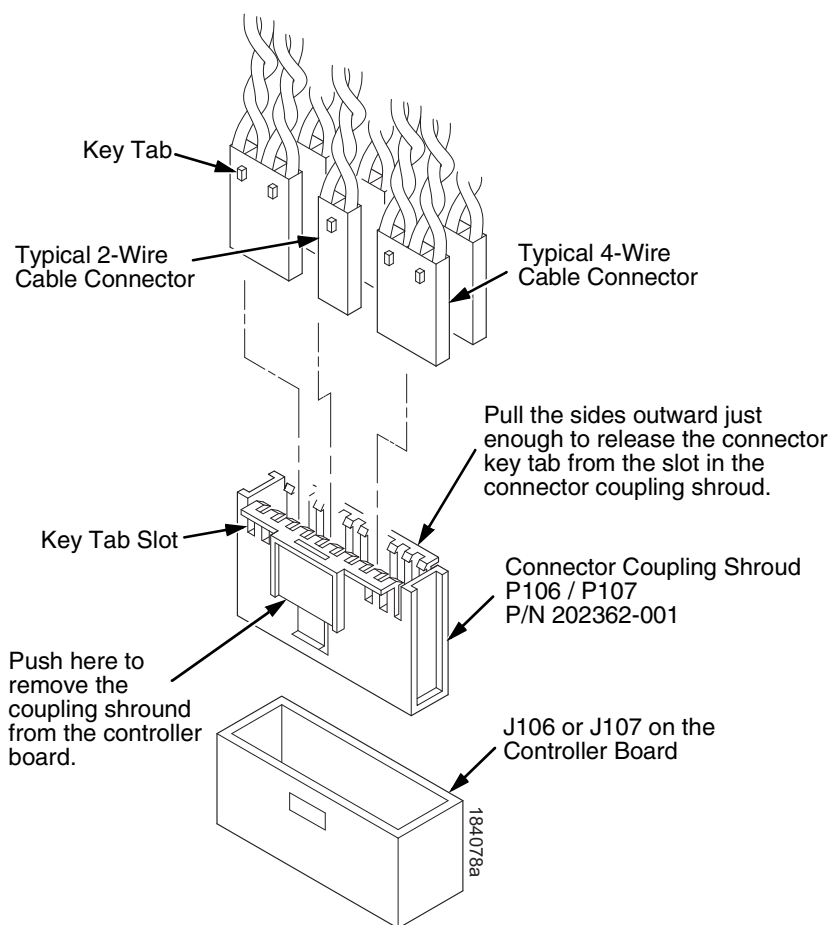

Figure 22. Connector Coupling Shrouds, Disassembly/Assembly
4. Pull the side of the coupling shroud outward and gently pull the cable connector upward. (See Figure 22.) Notice that in a coupling shroud two-wire connectors are grouped across from two-wire connectors and four-wire connectors are grouped across from four-wire connectors.
1. Position the cable connector in the connector coupling shroud. Two-wire connectors are always grouped across from two-wire connectors in a coupling shroud. Four-wire connectors are always grouped across from four-wire connectors in a coupling shroud. (See Figure 22.)